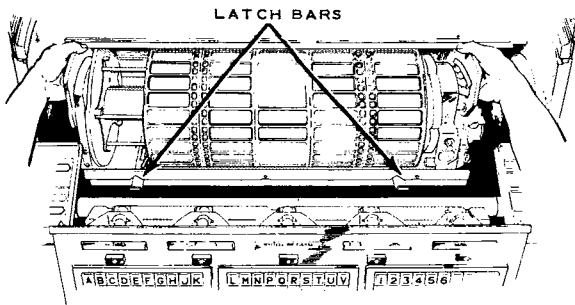

Figure 23a.
- c. Grasp drum assembly, lift off locating pins and with a radial motion, out of cabinet. See Figures 23a and 23b.